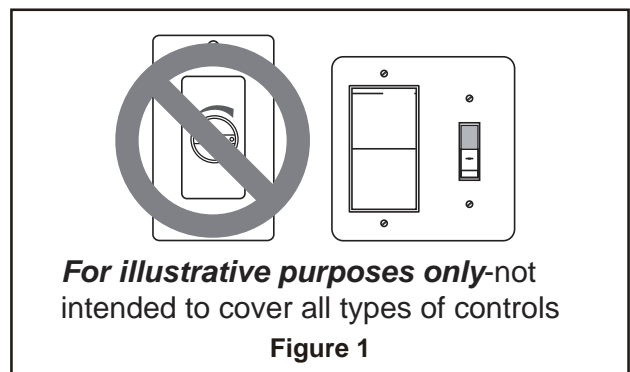

Figure 1
- 1. **IMPORTANT:** Using a full range dimmer switch (not included) to control fan speed will damage the fan. To reduce the risk of fire or electrical shock, do not use a full range dimmer switch to control the fan speed. (Figure 1)